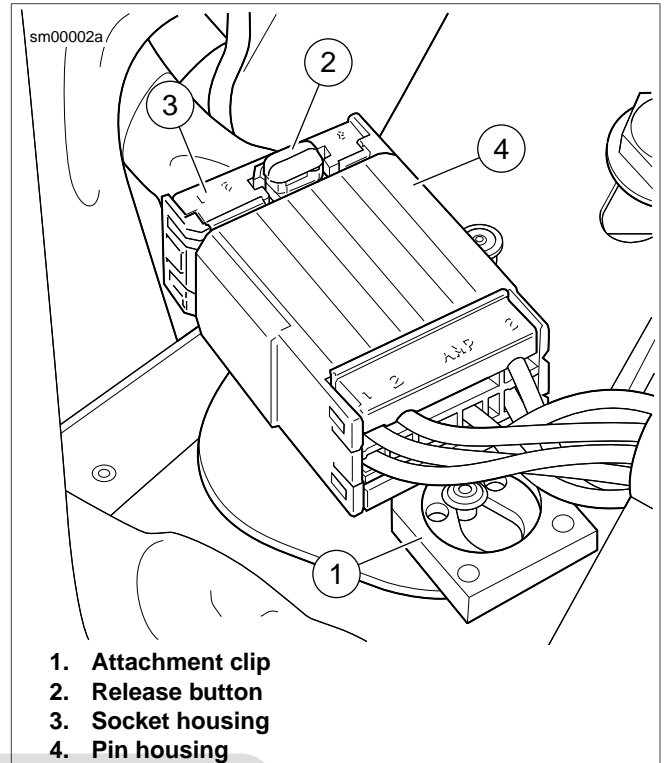

Figure A-58. Tyco 070 Multilock Unsealed Connector
See Figure A-58. Attachment clips (1) on the pin housings are fitted to T-studs on the motorcycle frame. The T-studs identify OE connector locations. To maintain serviceability, always return connectors to OE locations after service.
2. See Figure A-58. Press the release button (2) on the socket terminal side of the connector and pull the socket housing (3) out of the pin housing (4).